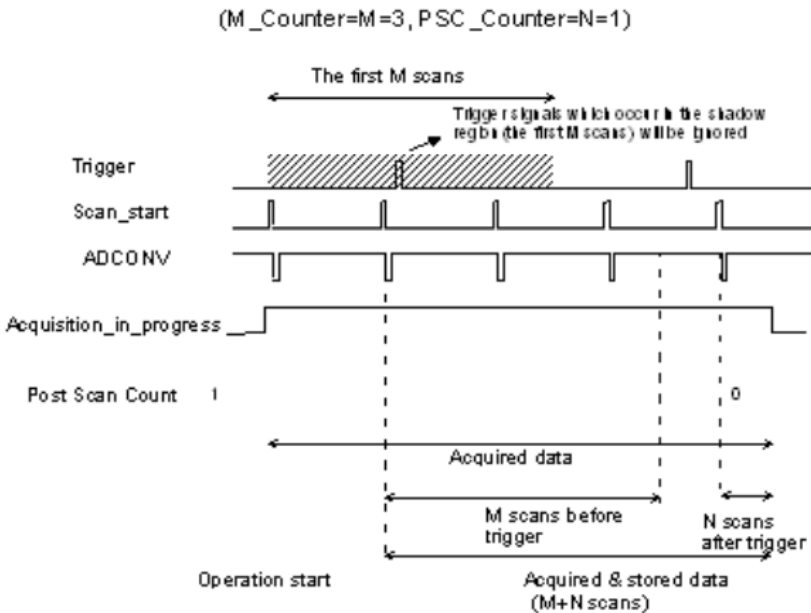
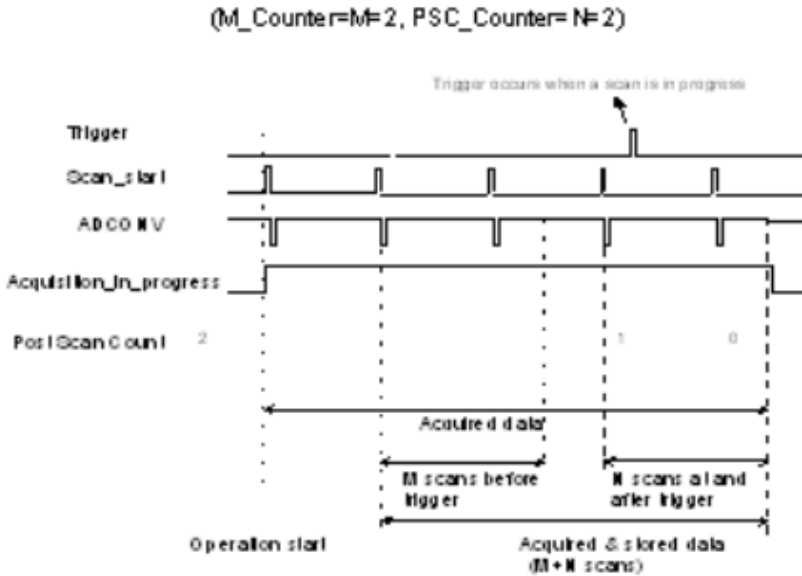

Figure 3-14: Middle trigger with $M_enable = 1$
Figure 3-15: Middle trigger (trigger occurs when a scan is in progress)
Use middle-trigger acquisition in applications where you want to collect data before and after a trigger event. The number of scans (M) stored before the trigger is specified in $M_counter$, while the number of scans (N) after the trigger is specified in $PSC_counter$. Like pre-trigger mode, the number of stored data could be less than the specified amount of data ($M+N$), if an external trigger occurs before M scans of data are converted. The M_enable bit in middle-trigger mode takes the same effect as in pre-trigger mode. If M_enable is set to 1, the trigger signal will be ignored until the first M scans of data are converted, and it assures the user with $(M+N)$ scans of data under middle-trigger mode. However, if M_enable is set to 0, the trigger signal will be accepted at any time. Figure 3-14 shows the acquisition timing with $M_enable=1$.
If the trigger event occurs when a scan is in progress, the stored N scans of data would include this scan, as illustrated in Figure 3-15.
$M_counter$ defined in Middle-Trigger is different from that of Pre-Trigger. In Middle-trigger, $M_Counter$ ends counting before the trigger event while in Pre-Trigger, $M_Counter$ ends counting right at or before a trigger event. Refer to Figure 3-14 and Figure 3-15.